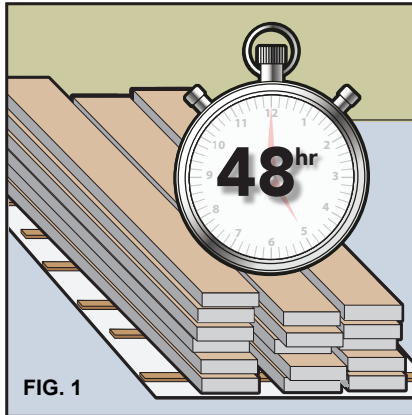

FIG. 1
- Stack product no more than eight bundles high in areas to receive new wall planks (remove plastic from outside of bundles if present). Ensure each layer is evenly supported to prevent distortion. Elevate stack using 2 x 4's as illustrated in Fig. 1 above. **On concrete; place a layer of 6 mil poly down first during the acclimation process.**